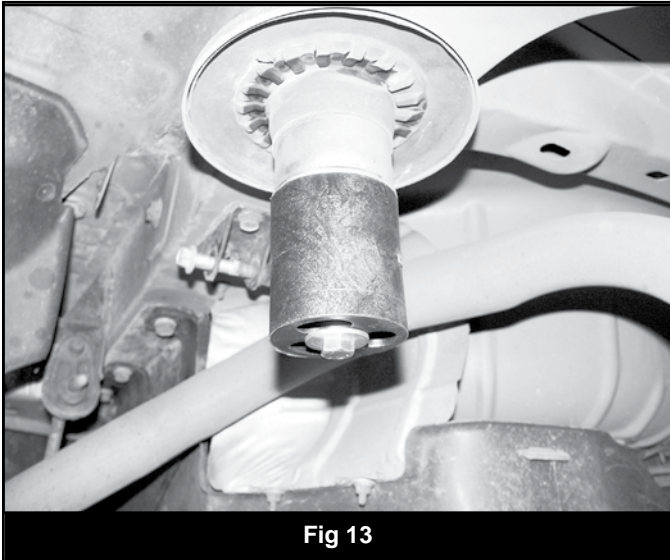

Fig 13
10. Install the provided bump stop extensions (3296) to the upper coil pocket with 3/8" x 2-1/2" bolts and 3/8" USS washers (BP #439) in the hole that was tapped out (Fig 13). Use Loctite on the bolt threads and torque to 20 ft-lbs.